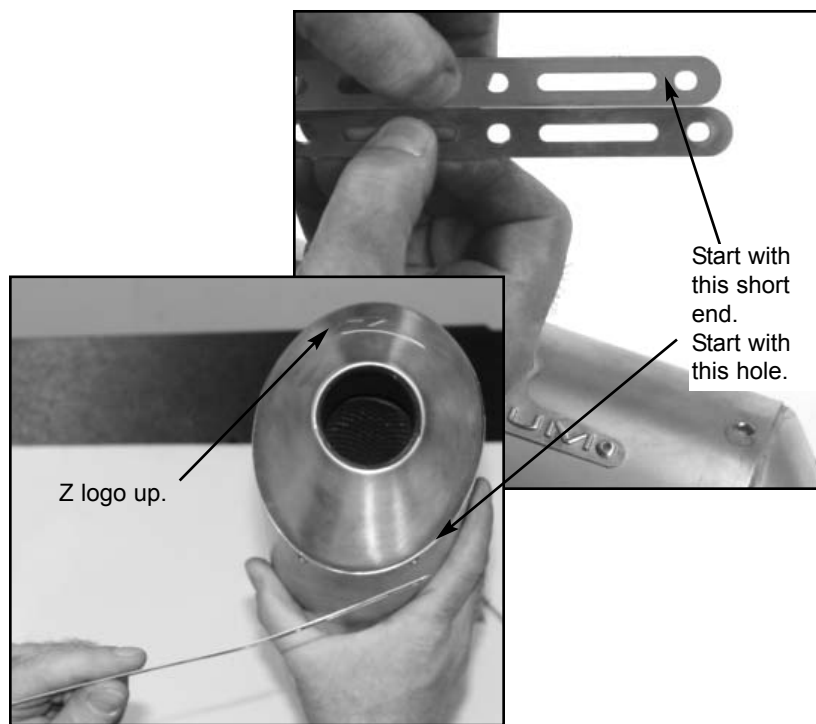

Figure 10
9. Identify short end of strap. Start rivot with short end positioned at lower hole location as shown in Figure 10. Rivot first postion. (Air power pop rivot tool.)